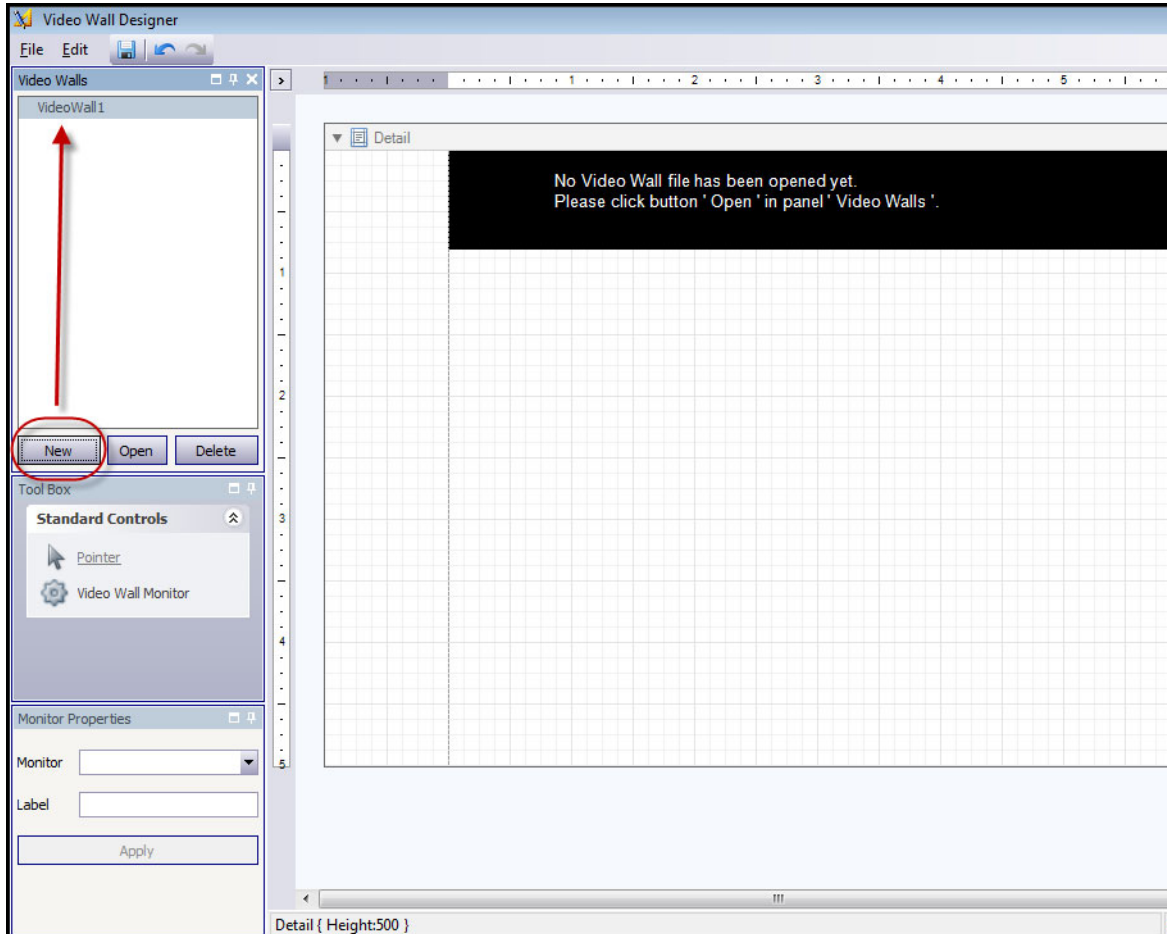

Figure 56. Video Wall Designer
4. From the **File** menu, select **Design Video Wall**. The **Video Wall Designer** opens (Figure 56).